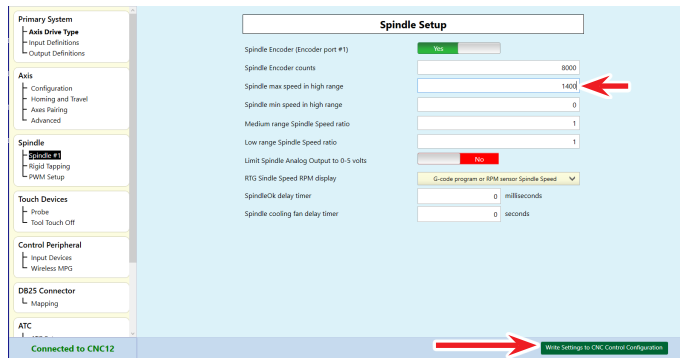

FIGURE 13
D. Change the max speed to 1400. Then, click on “Write settings to CNC control configurations” (see Figure 13)